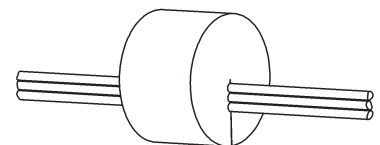

Fig. 5:
• **Conduit** – Included with the Carbon Monoxide transmitter is a foam plug to seal the ½ inch EMT. Place the wires into the plug as shown in Fig. 5 and then insert the plug into the conduit sealing the conduit.